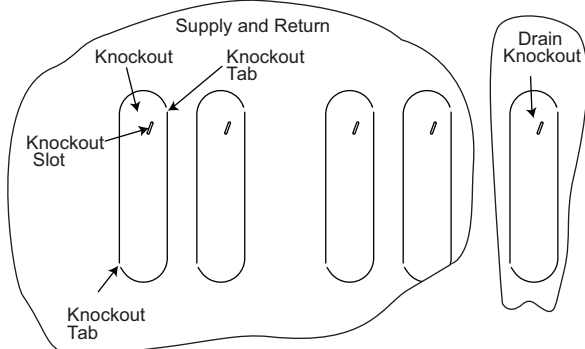

Fig. 21 – Remove 42SUA Unit Knockouts
3. Insert a flat head screw driver into knockout slot shown in Fig. 21.